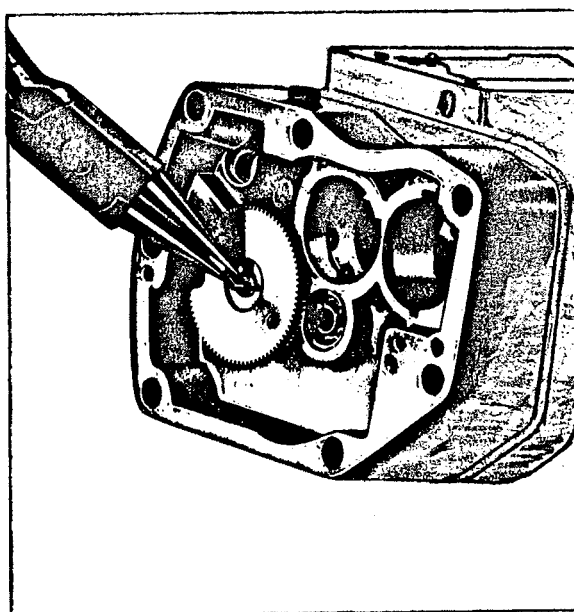
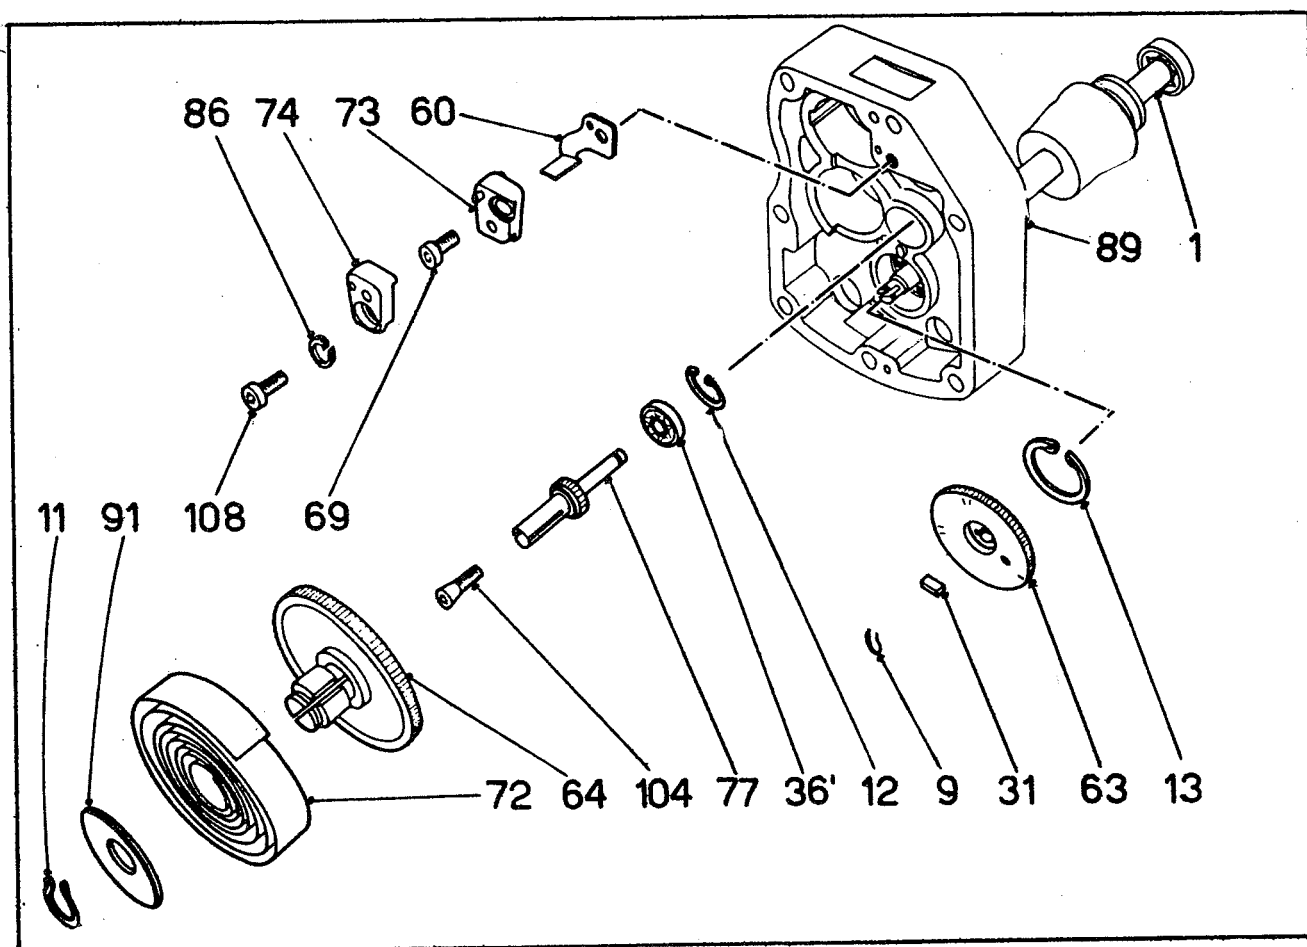

Fig. 34 - Mounting Position of Governor
Fig. 35 - Governor Gears and Spiral Spring
- its stop (gear pin positioned as shown in figure 34);
- secure the shaft and the gear in this position, by fitting key (31) and snap ring (9);
- fit the spiral spring carrying gear (64) to the gear shaft(77);
- turn the gear (63) or (64) and make sure that it revolves completely without binding or excessive effort, otherwise renew all or some of the gears concerned;
- keeping the spiral spring (72) in the position shown in fig.35, insert its inner end into the slot provided in the hub of gear (64);
- fit the thrust washer (91) with its convex side facing the spring and secure it by fitting the snap ring (11);